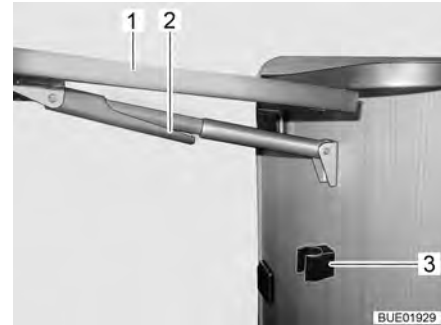

Fig. 48 Folding away the folding worktop
- Hold the folding worktop (Fig. 48,1) at the edges and lift gently. With your other hand, swing down the fixture (Fig. 48,2) on the telescopic holder.
- Fold down the worktop until the telescopic holder clicks into position in the holder (Fig. 48,3).